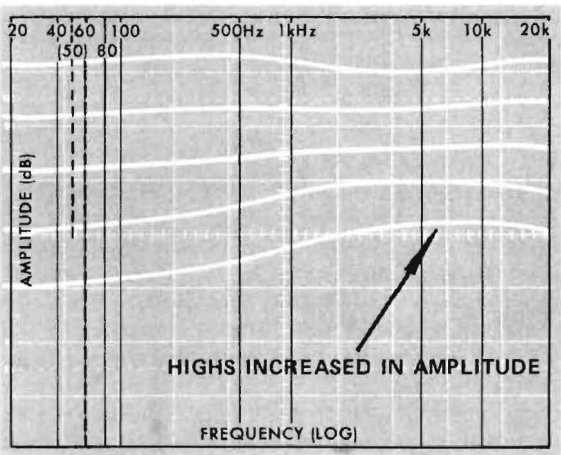

Figure 17 Response Action of Dolby "B" Encoder
- 2. The action of a Dolby B system encoder or decoder can be checked or noted by sweeping the device each time as the input level is reduced by 10 dB steps (Figure 17).